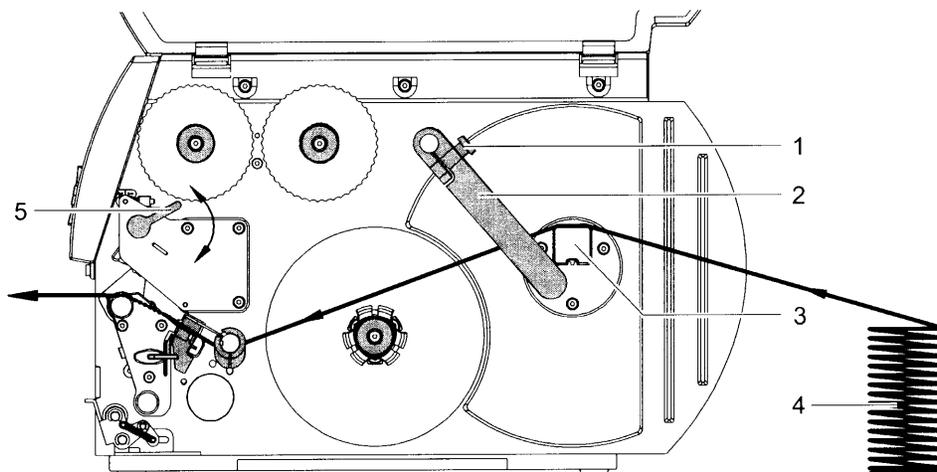

Fig. 11: Feed path of paper with fanfold labels
1. Loosen knurled screw (1) and slide guide (2) outward completely and swivel it downward past the roll retainer (3).
2. If core adapters are mounted on the roll retainer (3), remove core adapters (see "6.1.1" on page 16).
3. Position label stack (4) behind the printer. Ensure that the labels on the strip are visible from above.
4. Guide label strip to print unit via the roll retainer (3). See Fig. 11.
5. Push guide (2) against the label strip, swivel it upward against the roll retainer and tighten knurled screw (1).
9. Turn lever (5) clockwise to lock the printhead.